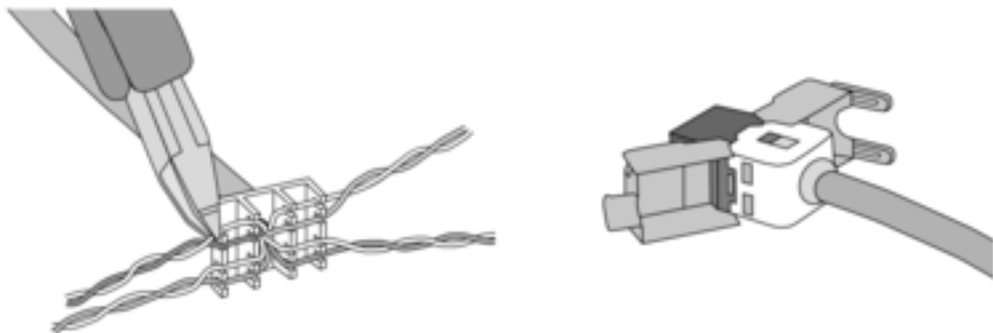

Figure 8: Connection of adapter connector to Ethernet cable
- Connect Ethernet cable to the Ethernet adapter plug. To do this, strip the Ethernet wires, do not skin, and insert into the cover of the adapter plug. Shorten any wires that are jutting out and push the cover onto the adapter plug in the correct position (Figure 8).
- Connect the supplied Ethernet adapter cable to the terminal (32) and Ethernet adapter plug.